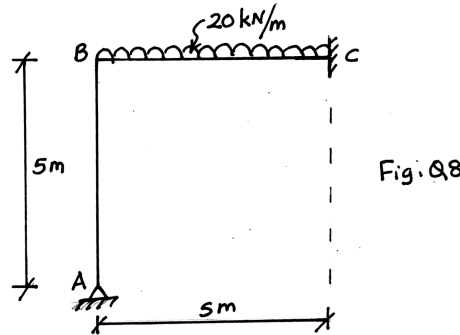

Fig. Q8
8. Analyse the portal frame shown in Fig. Q8 by displacement-transmission method. Sketch BMD and elastic curve. Assume EI to be same for all members.